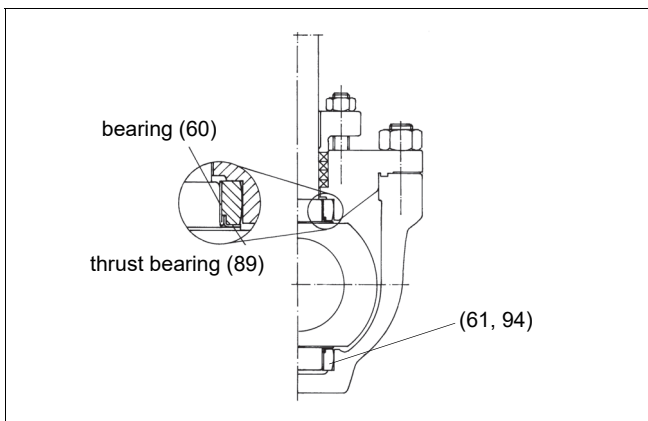

Fig. 19 Standard bearings
- Lubricate the O-ring (63) with silicone grease before installation.
- Install the O-ring (63).
- Install the support ring (64) into its groove. Cut the ribbon ends diagonally to make a flexible seam.
Install the back seal (130) and the ring (129). See Fig. 19.
- Install the spring (62) into the seat body (7).
The bearing material is PTFE reinforced with an acid-resistant steel net. If the bearings are so worn that the net is visible on the wear surface, you should replace the bearings (60, 61, 89, 94). See Fig. 19.